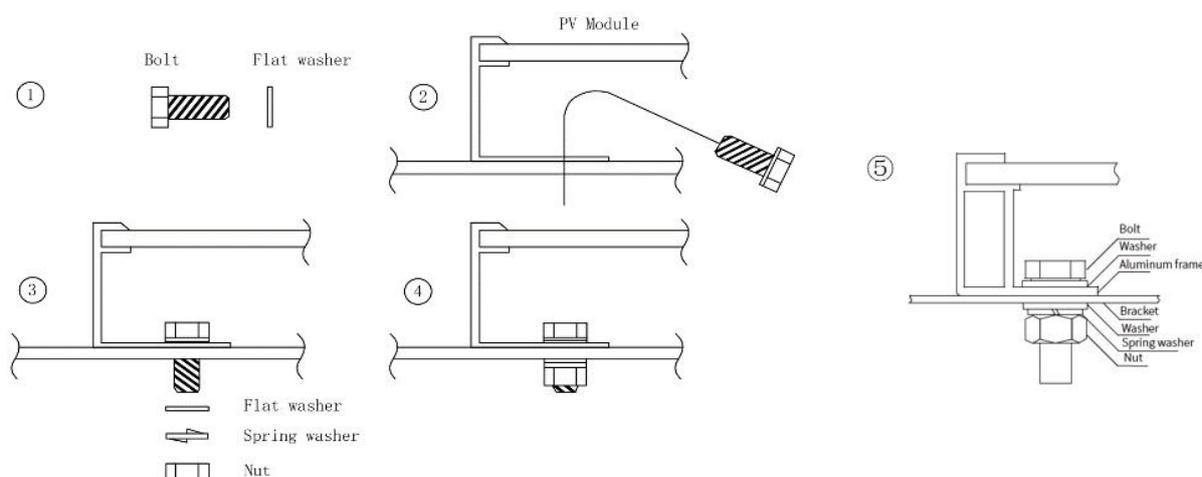

figure 4
- The method and the specifications of the fixing parts are shown in the figure 4 below:
<p style="text-align: center;">Figure 3 I-A</p>	 <p style="text-align: center;">Figure 4 I-B</p>